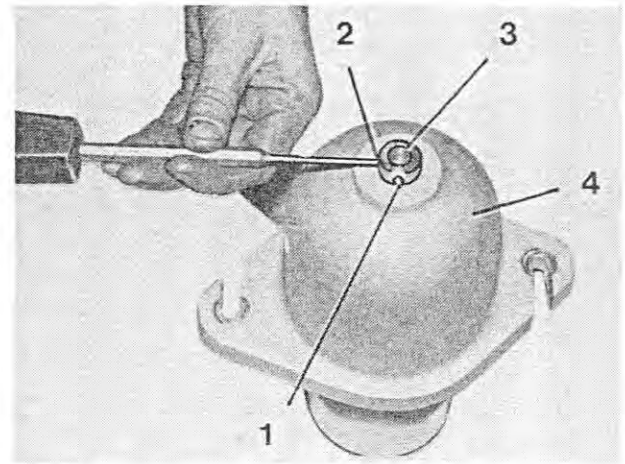

Fig. 236
2. Loosen the stud bolt (Figure 236/1) a few turns. Start the tapered pin (Figure 236/2) and remove the stop ring (Figure 236/3) and the bell (Figure 236/4).